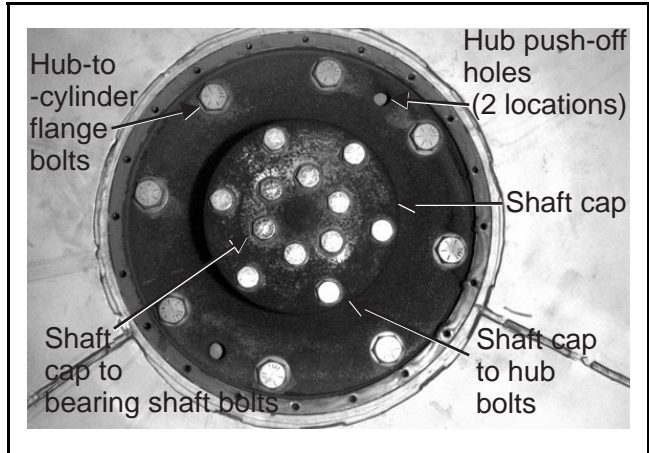
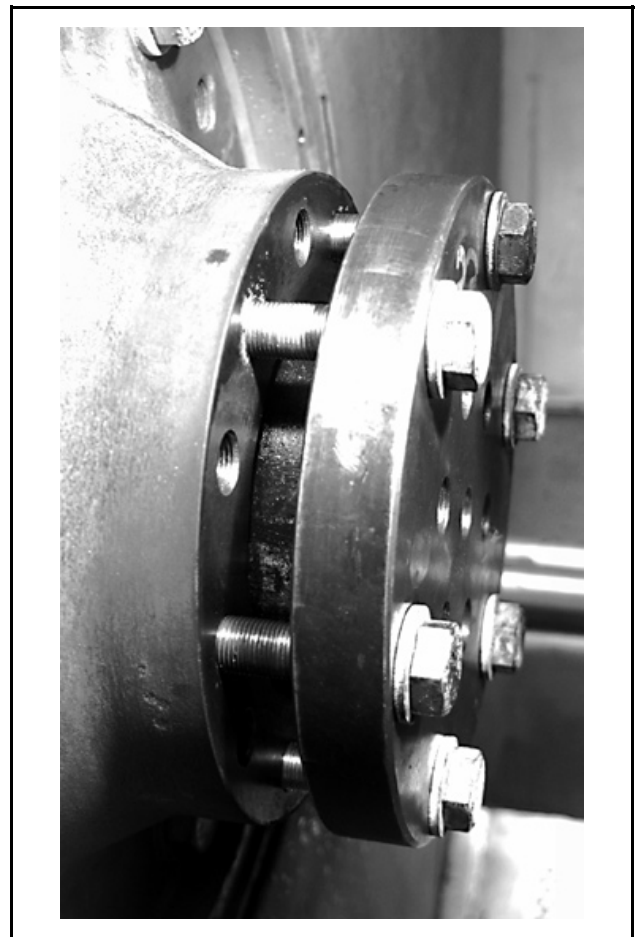
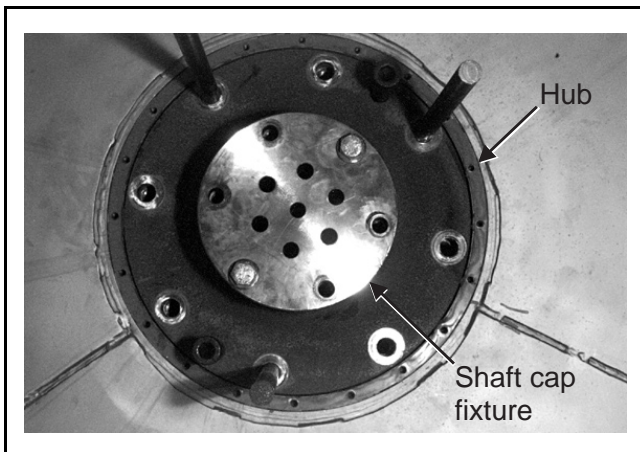

FIGURE 4 (MSSM0275AE)
FIGURE 7 (MSSM0275AE)
FIGURE 6 (MSSM0275AE)
1. Remove three of the *hub-to-cylinder flange bolts* (FIGURE 4) and replace them with *guide pins* (supplied in kit) as shown in FIGURE 6. These *guide pins* support the hub during the seal holder and shaft sleeve replacement procedure. Remove the rest of the *hub-to-cylinder flange bolts* after the *guide pins* are in place.
2. Install two *hub push-off bolts* (FIGURES 4 and 6).
3. Remove the *shaft cap* (FIGURE 4) and replace with the *shaft cap fixture* (FIGURE 5) with the raised surface turned inward.
4. Install six *shaft cap fixture* push-off bolts (supplied in the kit), as shown in FIGURE 7. Alternately tighten the *hub push-off bolts* (FIGURE 6) and the *shaft cap fixture push-off bolts* to simultaneously force the hub off both the bearing shaft and the cylinder flange.